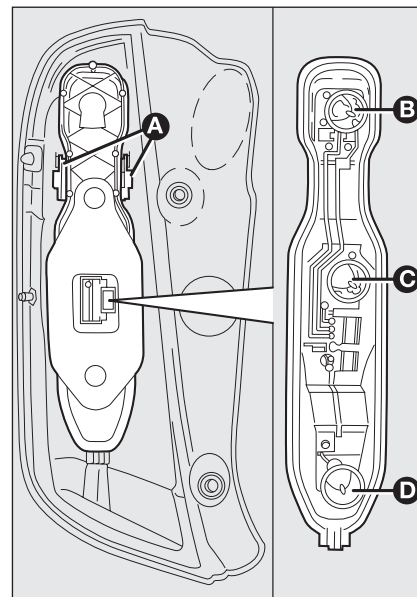

fig. 28
- ☐ press the bulb holder fastening tabs **A-fig. 28** and remove the bulb holder;
- ☐ remove bulbs **B - C - D-fig. 28** slightly pushing them and turning counterclockwise.